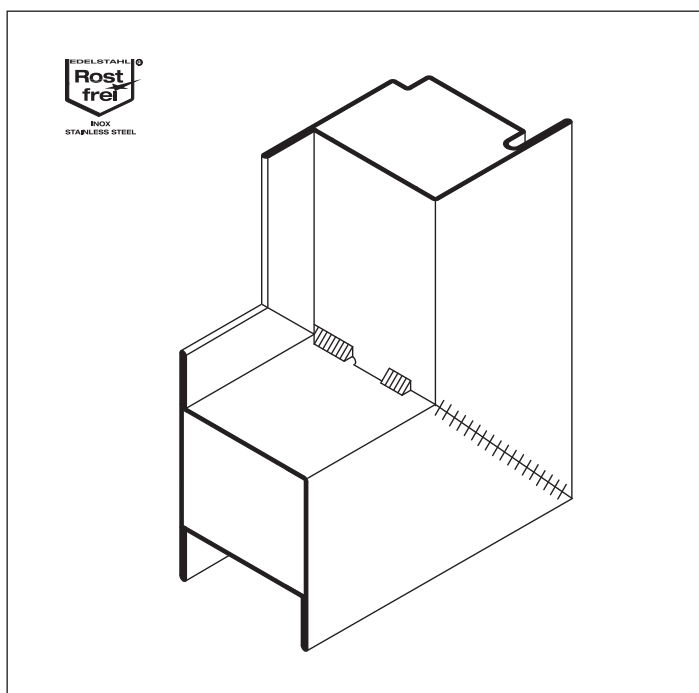

Fig. 179 Jansen-Economy 50/60 door leaf frame welded in the glazing rebate
- Weld the profiles continuously, where possible (Fig. 179/180)